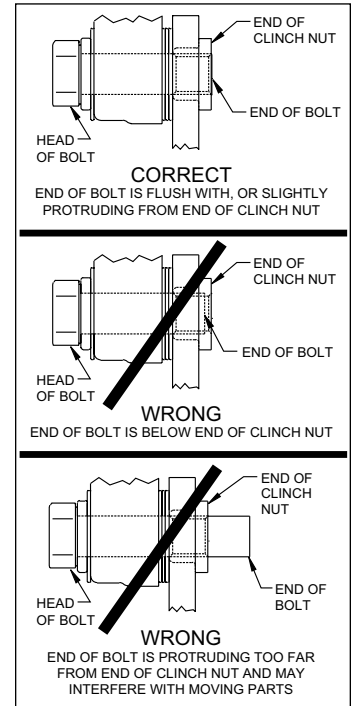

Figure 4. Clinch Nut Engagement Diagram
**CAUTION:** All mounting bolts must fully engage clinch nuts. Be sure to check that all bolts are either flush or protruding through flanged side of clinch nut after shimming, Figure 4.
- Pack the small outer bearing cone (10) with high temperature disc brake bearing grease and install into hub (9). Slide the hub/rotor onto the spindle. Secure using spindle washer (11) and nut (12), Photo 6. Adjust bearings per OEM specifications. Install new cotter pin (13).
- Press the dust cap (14) into hub (9).
- NOTE:** Please reference the caution statement at the beginning of the assembly instructions. Mount the caliper (15) onto the caliper bracket (1) using bolts (17) and washers (16), as shown in Figure 1. Initially place two .035" thick shims (18) on each bolt between the caliper and the bracket, Photo 7. Temporarily tighten the mounting bolts and view the rotor (9) through the top opening of the caliper. The rotor should be centered in the caliper, Photo 8. If not, adjust by adding or subtracting shims (18) between the bracket and the caliper. Always use the same amount of shims on each of the two mounting bolts. **NOTE:** The end of the bolt must be flush with or slightly protruding from the head of the clinch nut in the bracket. If necessary, place spare shims between the washer and the caliper mounting ear to achieve the proper clinch nut engagement, as shown in Figure 4. Once the caliper alignment is correct, remove the bolts one at a time, apply red *Loctite*® 271 to bolt threads, and torque to 40 ft-lb.